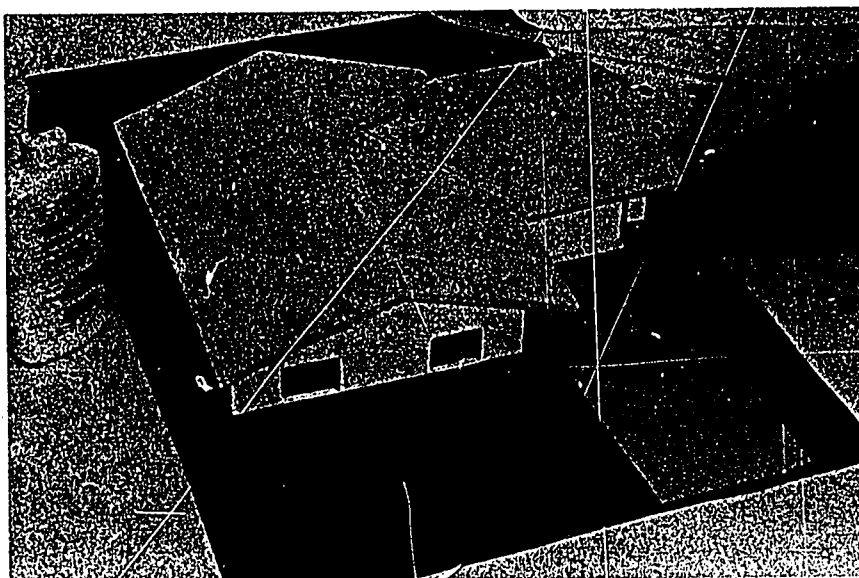

Fig. 90B-1. Landscaping
1. Lay out and install features according to your individual plans. See Fig. 90B-1.